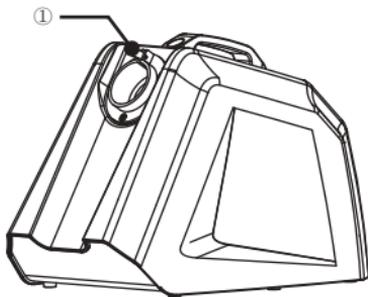

Figure 3
- Then plug the nozzle into the nozzle base, the lock buckle will then automatically lock, try to pull out to confirm the lock is in place, as shown in Figure 3